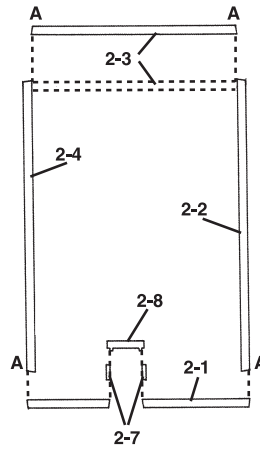

Fig. 2
Wall edges are angled (draft angles) to make removal from mold easier. Draft angles need to be sanded square to allow for proper assembly and a flush fit with adjoining Walls. To square edges, thumbtack a piece of 120-grit sandpaper to a board and draw Wall back and forth evenly on sandpaper until edge is square and level (Fig. 1). Edges to be sanded square do not have brick detail and are marked "A" (Fig. 2).
- Glue Side Panels to Entry Door (Fig. 2 and 4).